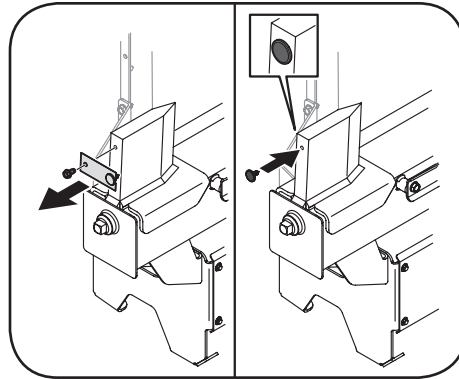

Figure 3-9
12. Remove and discard the screw located on the top of the back side of the wedge. Then separate and install push-in air vent plug in the same hole the screw was removed from. See Figure 3-9.